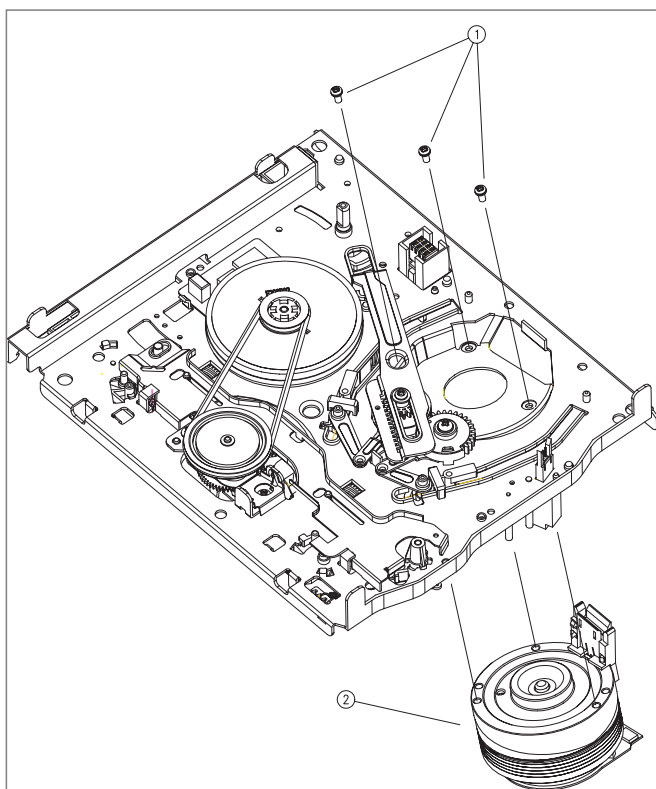

Fig. 3.5 Assembly of the DRUM TOTAL Ass'y
3. Disassembly of DRUM Ass'y (Fig. 3.5)
- a. Turn over the DECK MECHANISM and holding the DRUM TOTAL Ass'y ② with hands, remove the 3 screw holding the drum total assembly with mainbase.